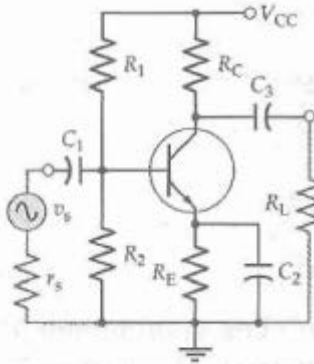
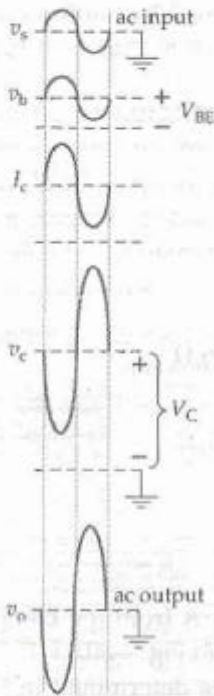

Figure 6-17 Transistor common-emitter amplifier with coupling and bypass capacitors.
Figure 6-18 Voltage and current waveforms in a common-emitter amplifier.
Consider the transistor amplifier circuit shown in Fig. 6-17. When the capacitors are regarded as ac short circuits, it is seen that the circuit input terminals are the transistor base and emitter, and the output terminals are the collector and the emitter. So, the emitter terminal is *common* to both input and output, and the circuit configuration is termed *common-emitter* (CE).
The current and voltage waveforms for the CE circuit in Fig. 6-17 are illustrated in Fig. 6-18. It is seen that there is a 180° phase shift between the input and output waveforms. This can be understood by considering the effect of a positive-going input signal. When v_s increases in a positive direction, it increases the transistor base-emitter voltage (V_{BE}). The increase in V_{BE} raises the level of I_C , thereby increasing the voltage drop across R_C , and thus reducing the level of the collector voltage (V_C). The changing level of V_C is capacitor-coupled to the circuit output to produce the ac output voltage (v_o). As v_s increases in a positive direction, v_o goes in a negative direction, as illustrated. Similarly, when v_s changes in a negative direction, the resultant decrease in V_{BE} reduces the I_C level, thereby reducing V_{RC} and producing a positive-going output.
The circuit in Fig. 6-17 has an *input impedance* (Z_i), and an *output impedance* (Z_o). These can cause voltage division of the circuit input and output voltages, as illustrated in Fig. 6-19. So, for most transistor circuits, Z_i and Z_o are important parameters. The circuit voltage amplification (A_v), or *voltage gain*, depends on the transistor parameters and on resistors R_C and R_L .
supply and capacitors. When this is done for the circuit in Fig. 6-17, it gives the ac equivalent circuit shown in Fig. 6-20a (reproduced from Fig. 6-6b). The h -parameter circuit is now drawn simply by replacing the transistor in the ac equivalent circuit with its h -parameter model (from Fig. 6-12b). This gives the CE h -parameter equivalent circuit in Fig. 6-20b. Note that the feedback voltage generator ($h_{re}v_c$) in Fig. 6-12b is omitted in Fig. 6-20b. As discussed, the effect of $h_{re}v_c$ in a CE circuit is unimportant for most practical purposes.